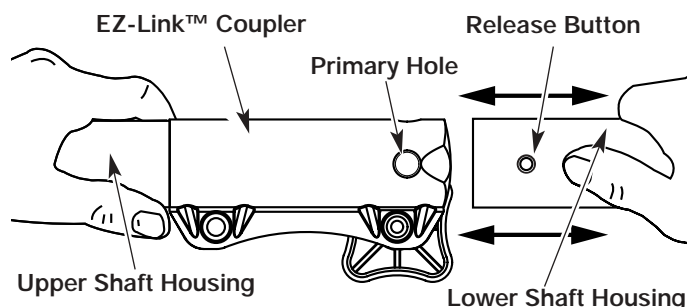

Fig. 25
3. While firmly holding the upper shaft housing, pull the cutting attachment or add-on straight out of the EZ-Link™ coupler (Fig. 25).
2. While firmly holding the add-on, push it straight into the EZ-Link™ coupler (Fig. 25).